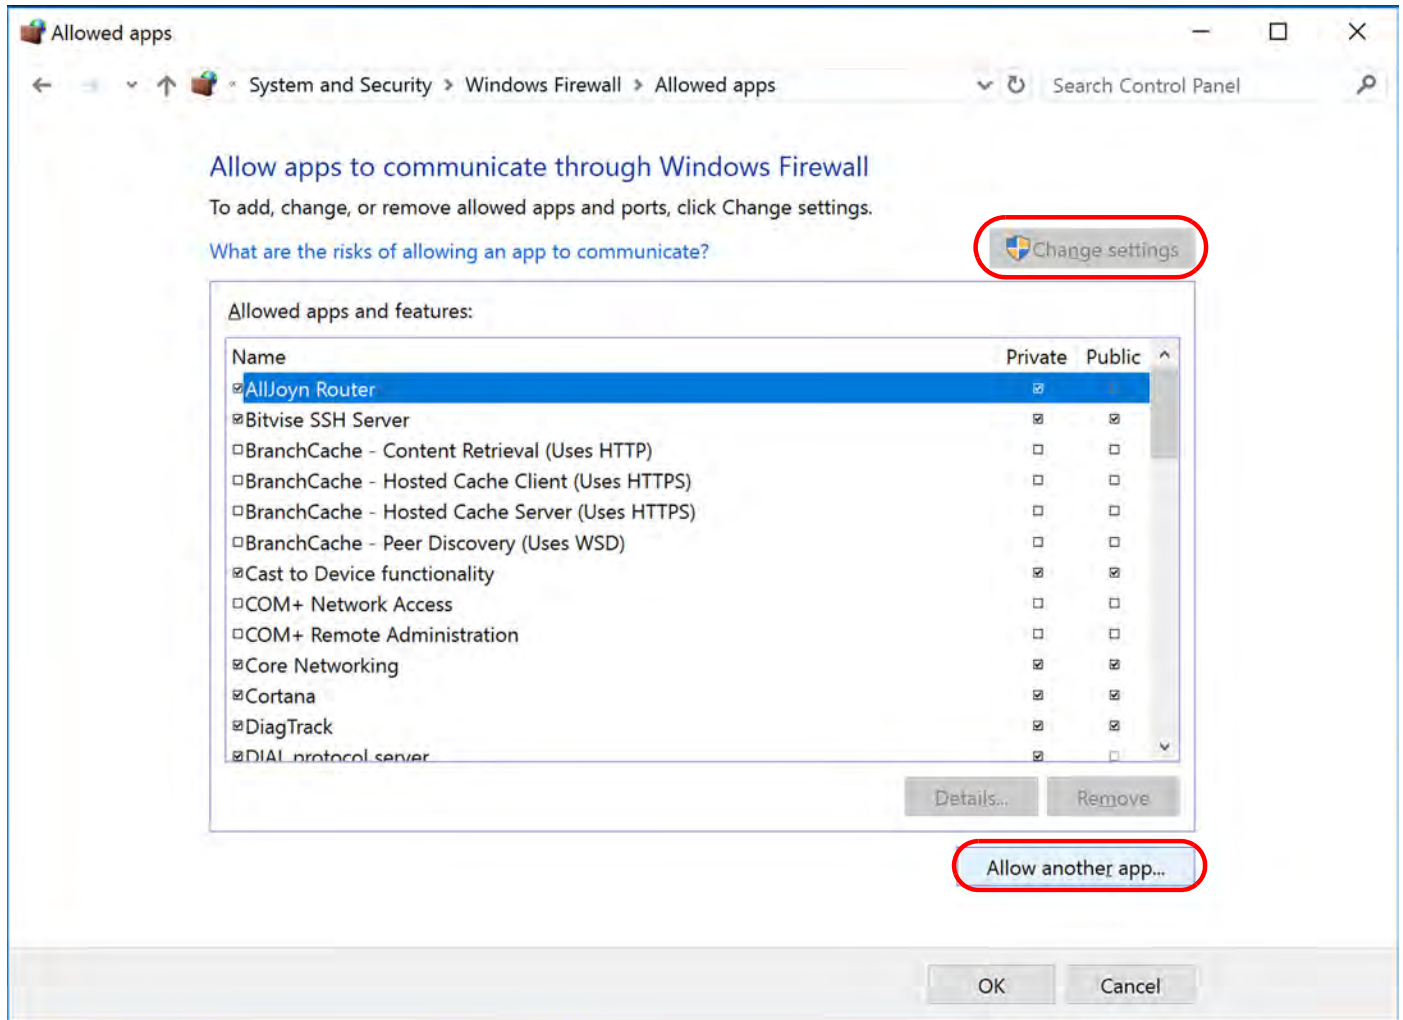

Figure H.4: Change Settings, Allow Another App
4. Click **Change settings**, then click **Allow another app...** (Figure H.4). The User Account Control pop-up box appears.